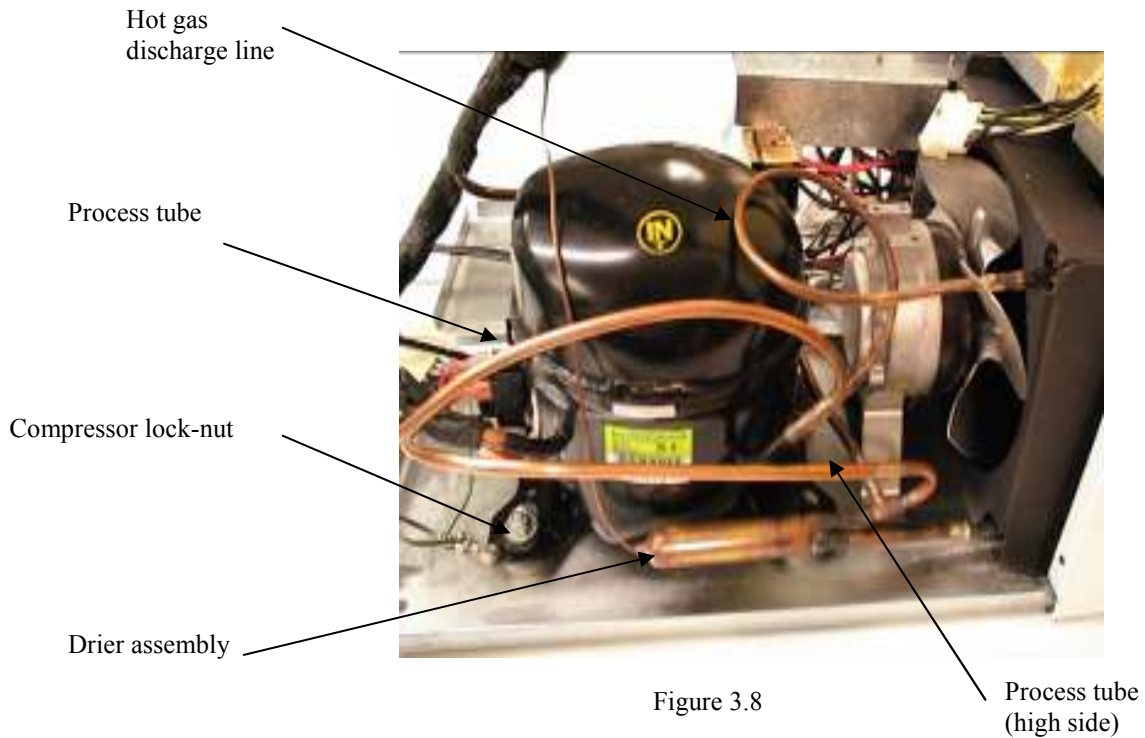

Figure 3.8
25. Un-braze and remove the suction line at the compressor (see figure 3.8).
26. Un-braze the hot gas discharge line at the compressor (see figure 3.8).
27. Remove the compressor by removing the two lock-nuts on the mounting plate of the compressor. Lift the compressor off of the carriage bolts (see figure 3.8).
15. Un-braze and remove the suction line at the compressor (see figure 3.8).
16. Un-braze the hot gas discharge line at the compressor (see figure 3.8).
17. Remove the compressor by removing the two lock-nuts on the mounting plate of the compressor (see figure 3.8). Lift the compressor off of the carriage bolts.
15. Un-braze the hot gas line from the compressor at the top of the condenser coil (see figure 3.8).